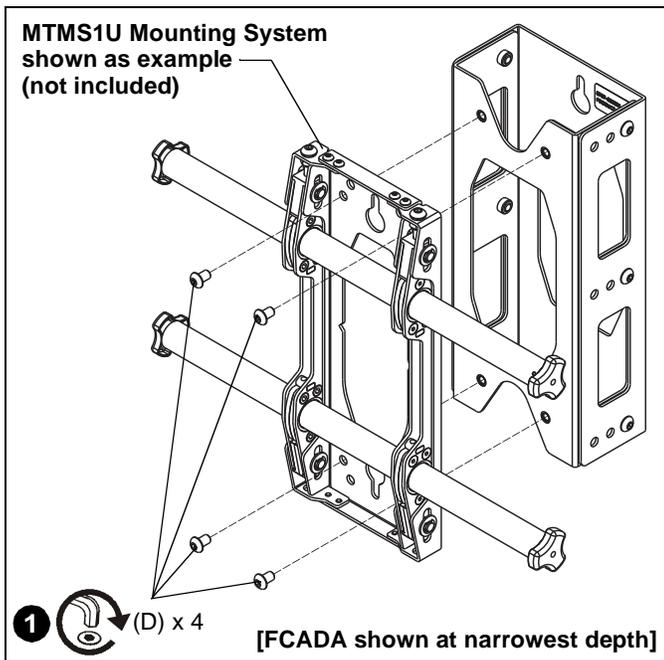

Figure 4
1. Attach mounting system (not included) to FCADA accessory using four 5/16-18 x 1/2" button head cap screws (D). (See Figure 4)